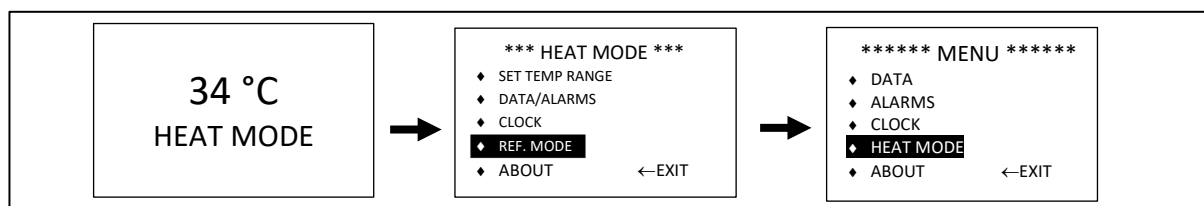

Figure 20: Return to REFRIGERATION MODE from HEAT MODE
- Press MENU/SELECT and use ▲ and ▼ to highlight and select REF. MODE as shown in Figure 20